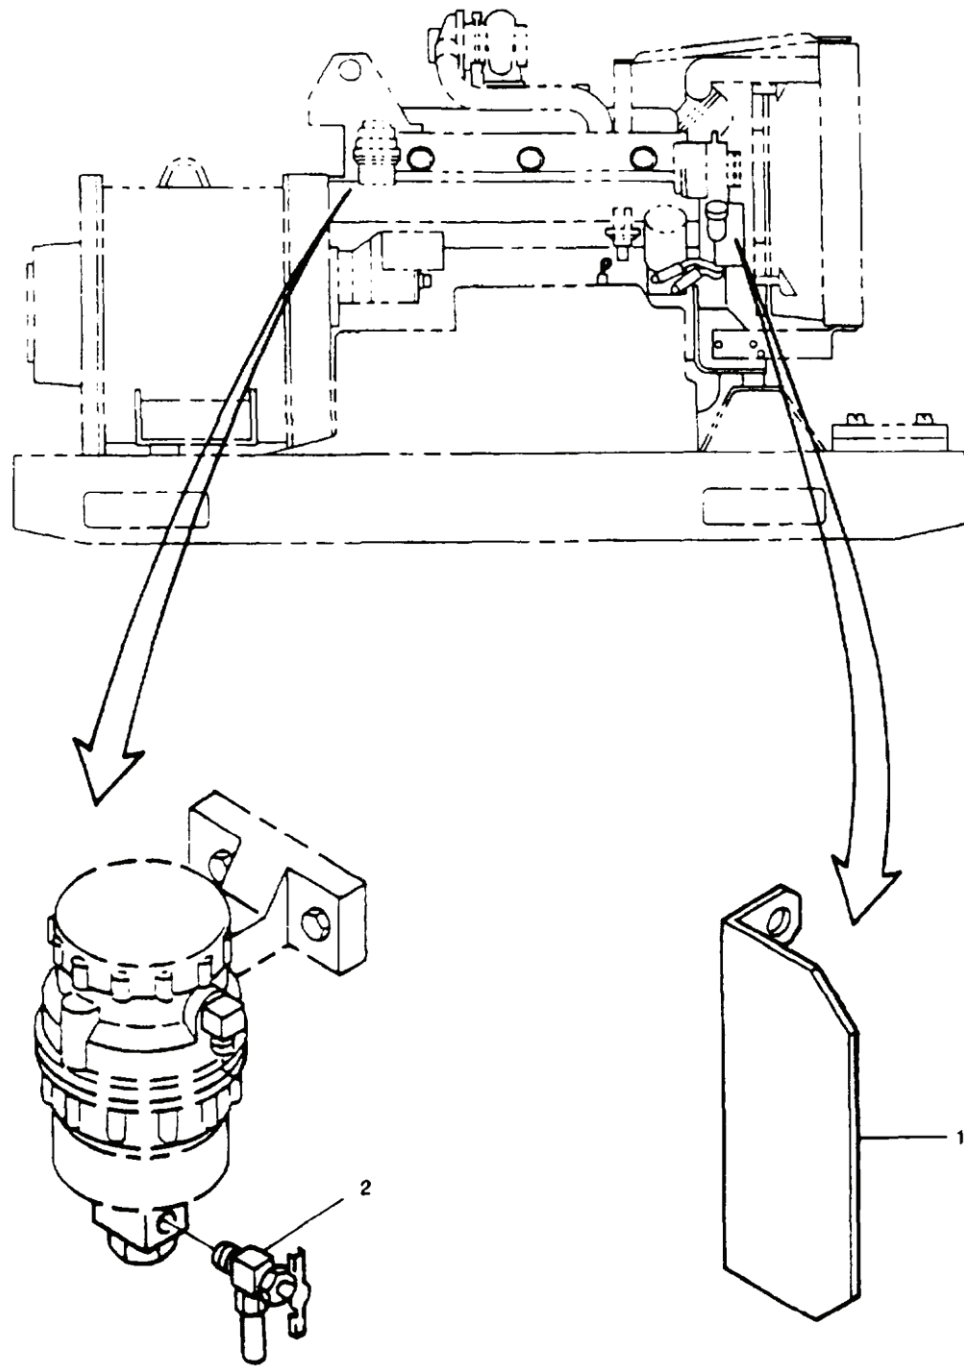

Figure 16. Engine Components (Right Side).
- b. Alternator guard (Figure 16, Item 1). Use hardware from old engine.
- c. Fuel filter drain valve assembly (Figure 16, Item 2).